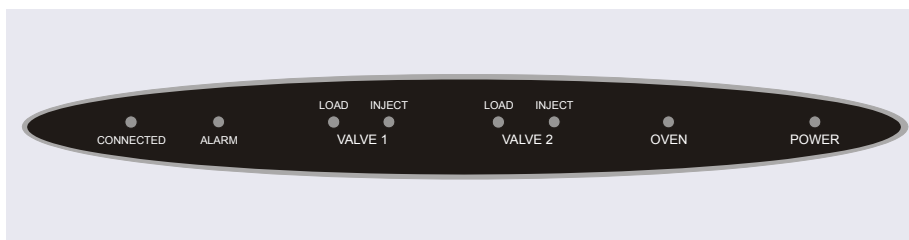

Figure 2-60. TC Status Bar
A status bar on the front of the Dionex ICS-5000⁺ Thermal Compartment (TC) includes LEDs (light emitting diodes) that indicate the status of several TC components and functions (see Figure 2-60).